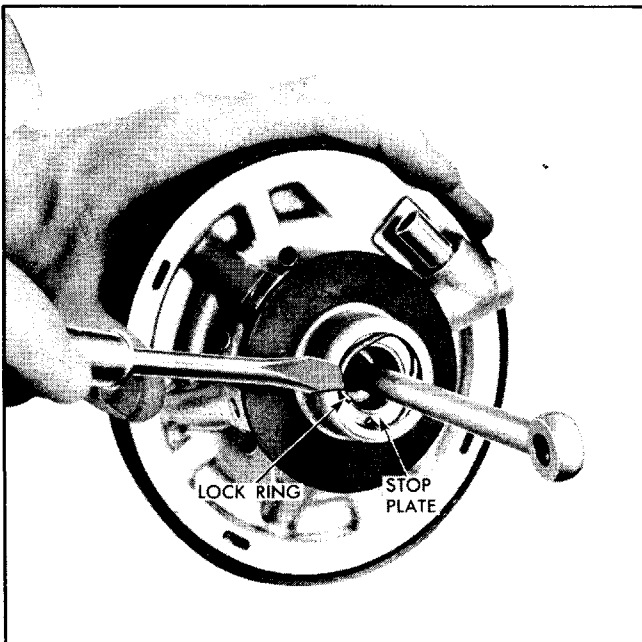

Fig. 5-69 Replacing Air Valve Lock Ring
9. Carefully turn power piston, guide, air valve and push rod assembly over and insert stop plate and triangular lock ring which hold the air valve in place. Lock ring may be assembled by using small screw driver (Fig. 5-69). After being locked in place, the air valve will have approximately $\frac{1}{32}$ " travel against valve return spring before picking up floating valve load. *Care should be exercised during this operation to avoid damage to the master cylinder plunger. Never put the master cylinder plunger into a vise.*